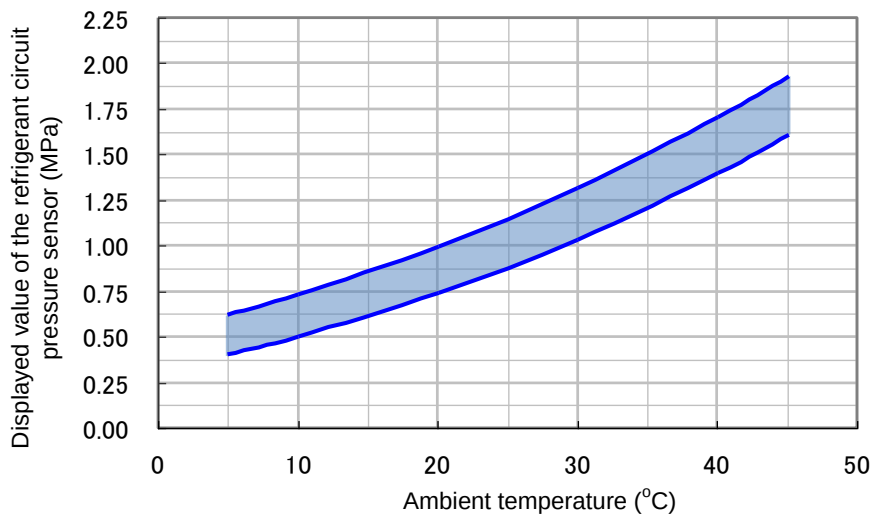

Fig. 3.3-55 Ambient temperature and refrigerant circuit pressure
- (1) Leave the Thermo-Chiller not operating for 24 hours to make the ambient temperature and the temperature inside the Thermo-Chiller the same.
- (2) Check the ambient temperature.
- (3) Check "PL: Refrigerant circuit pressure on the low pressure side" value in the "Check Monitor Menu".
- (4) Check if the value at the cross point of the ambient temperature and the "PL: Refrigerant circuit pressure on the low pressure side" value is within the range (the shaded part) in Fig. 3.3-55. If the cross point is within the range, it means that the pressure sensor is operating correctly.